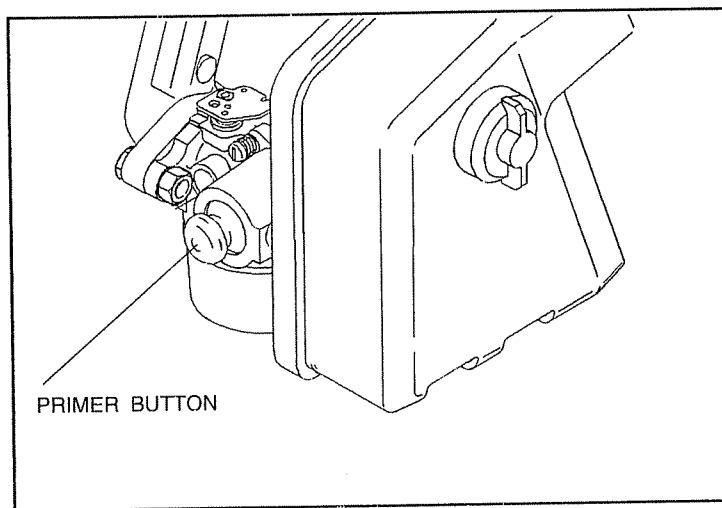

Figure 3
- B. Push primer two (2) or three (3) times (see Figure 3). Wait about two (2) seconds between each push. In cold weather (50°F/10°C or below) push five (5) times.
④ ELECTRIC STARTER (with primer):